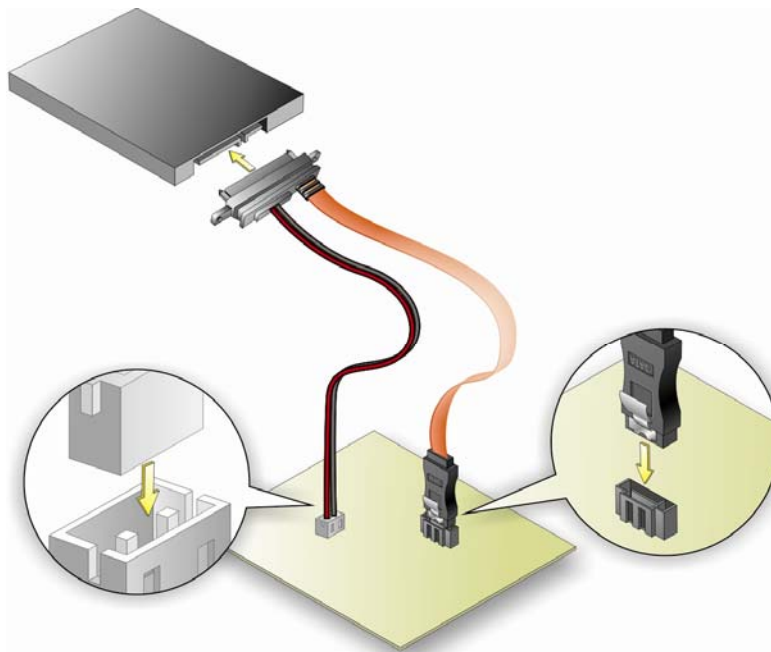

Figure 4-14: SATA Drive Cable Connection
- Step 2:** **Insert the cable connector.** Insert the cable connector into the on-board SATA drive connector and the SATA power connector. See **Figure 4-14**.
Step 3: Connect the cable to the SATA disk. Connect the connector on the other end of the cable to the connector at the back of the SATA drive. See **Figure 4-14**.